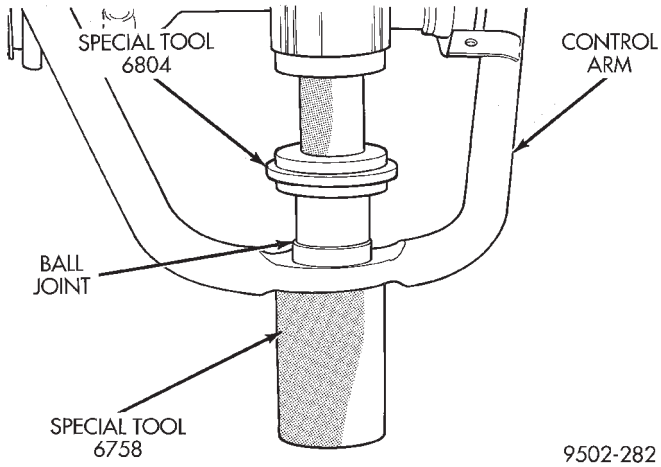

Fig. 31 Removing Ball Joint From Upper Control Arm
(2) Position Receiving Cup, Special Tool 6758 to support control arm when removing ball joint assembly (Fig. 31). Install Remover/Installer, Special Tool 6804 on top of ball joint assembly (Fig. 31).
(3) Using an arbor press, press the ball joint assembly out of the control arm.